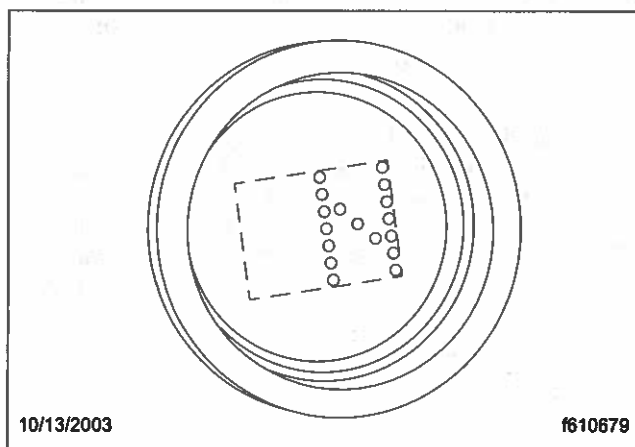

Fig. 8.29, Neutral Display
Neutral (N) is in the center of the three-position selector switch located at the end of the SmartShift control lever. Always start the engine in neutral. To select neutral, move the selector switch to the center position. When neutral is selected, the letter "N" displays on the current gear indicator. See Fig. 8.29.